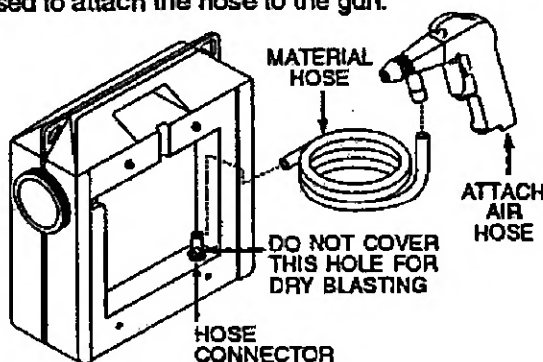

Figure 4 - Model AT125102AJ - 30 LBS
1. Attach the material hose to the hose connector. Attach the opposite end of the material hose to the gun (See Figure 4).